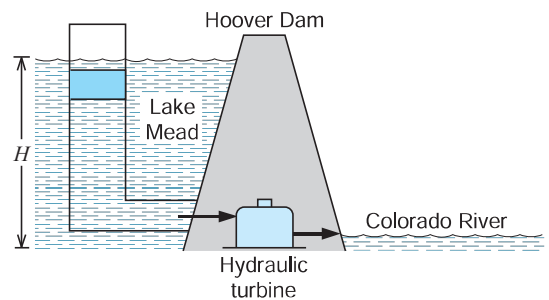

FIGURE P6.44
- 6.44** Hoover Dam across the Colorado River dams up Lake Mead 200 m higher than the river downstream (see Fig. P6.44). The electric generators driven by water-powered turbines deliver 1300 MW of power. If the water is 17.5°C , find the minimum amount of water running through the turbines.